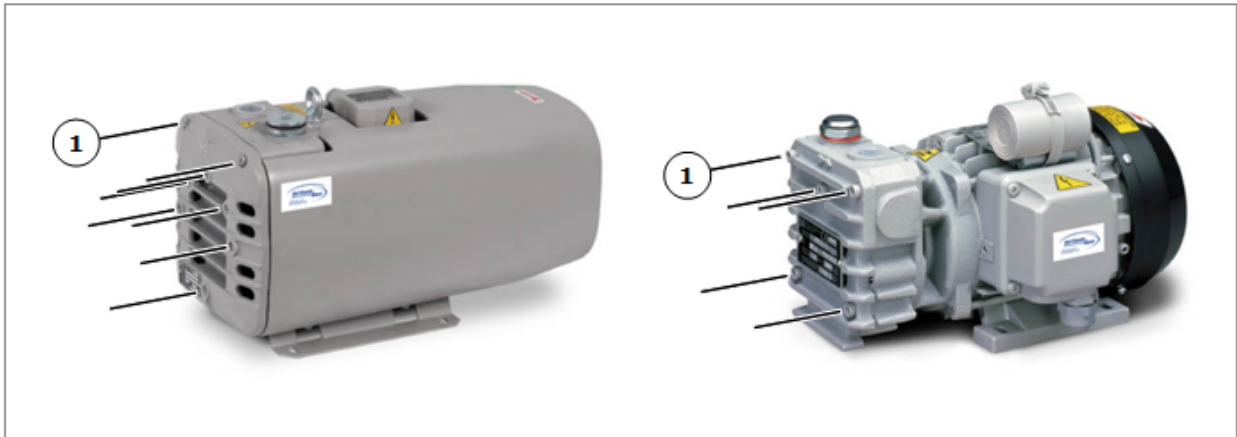

Fig. 7 Removing exhaust grille / cover
- Outlet grilles / Unscrew the housing cover, Fig. 7 item 1,
In cartridge could have different sealing. The housing cover (Fig. 7, item 1) should be screwed with equal force until achieving right position.